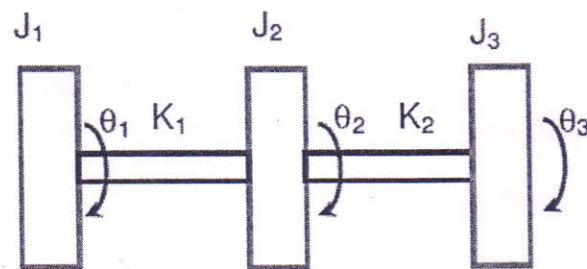

Fig. 10.
10. For the system shown in the Fig.10, obtain natural frequencies using Holzer's method. Take $J_1 = J_2 = J_3 = 1 \text{ kgm}^2$ and $k_1 = k_2 = 1 \text{ Nm/rad}$, Assume trial frequency as 0.25 rad/s .